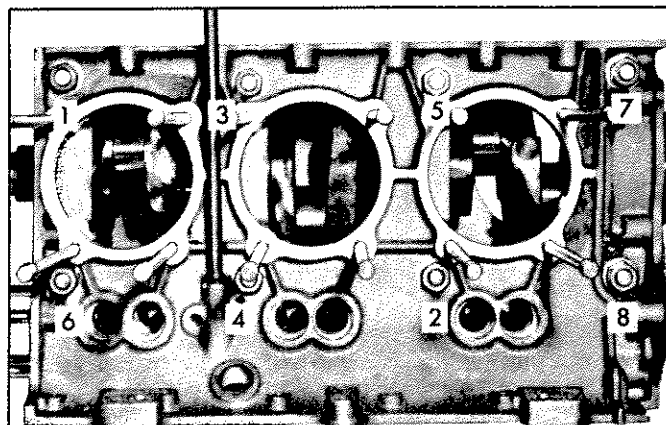

Fig. 59—Crankcase Torque Sequence
5. Seal crankcase parting line ends with sealer and install left crankcase half to right crankcase half. Install crankcase bolts (8 long) finger tight, then place crankcase on two short lengths of wood (2 x 4) and torque crankcase bolts to specifications in the sequence shown (fig. 59).